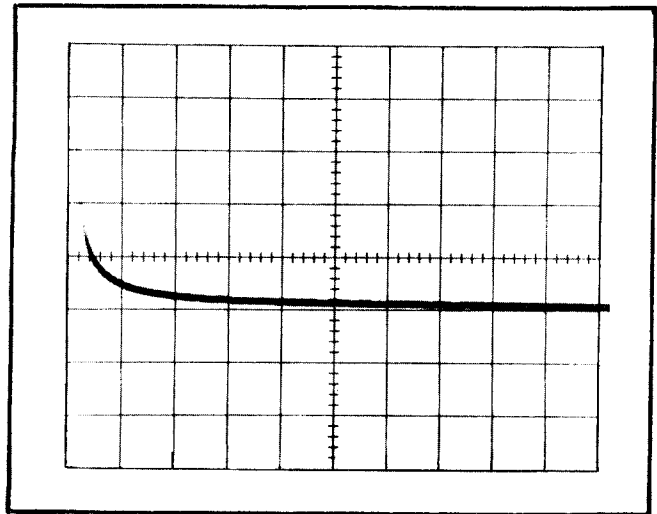

Fig. 5-8. Typical waveform showing overdrive recovery time.
- i. CHECK—The waveform as the Reed Pulse Generator Man switch is released. Readjust the Time Base Level-Slope as necessary for proper triggering. The trace should return to within 5 mV of the reference (1 division below the graticule center) within 10 μs (5 divisions). See Fig. 5-8 for photograph of typical recovery waveform.